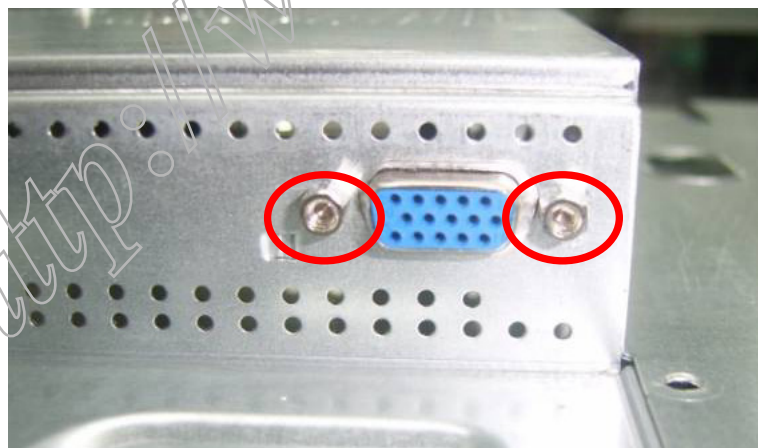

Fig 7
5. Remove the screws to remove the main board and power board.(Fig 7,8)